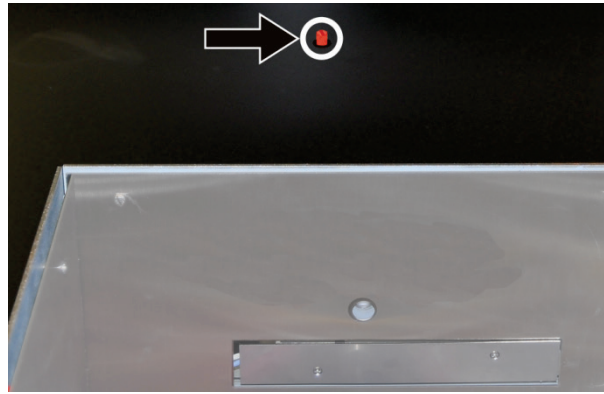

Fig. 29 Transport lock on the novAA 800
3. Unscrew the red-marked transport lock (arrow in Fig. 29) from the mesh lever and remove it from the spectrometer chamber.